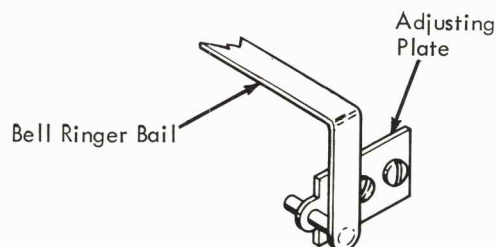

FIGURE 179. Bell-Ringer Bail Adjusting Plate
4. Bell Ringer Bail Adjusting Plate (New) (Fig. 179) - Position the adjusting plate so that the bellringer bail is parallel to the margin rack.